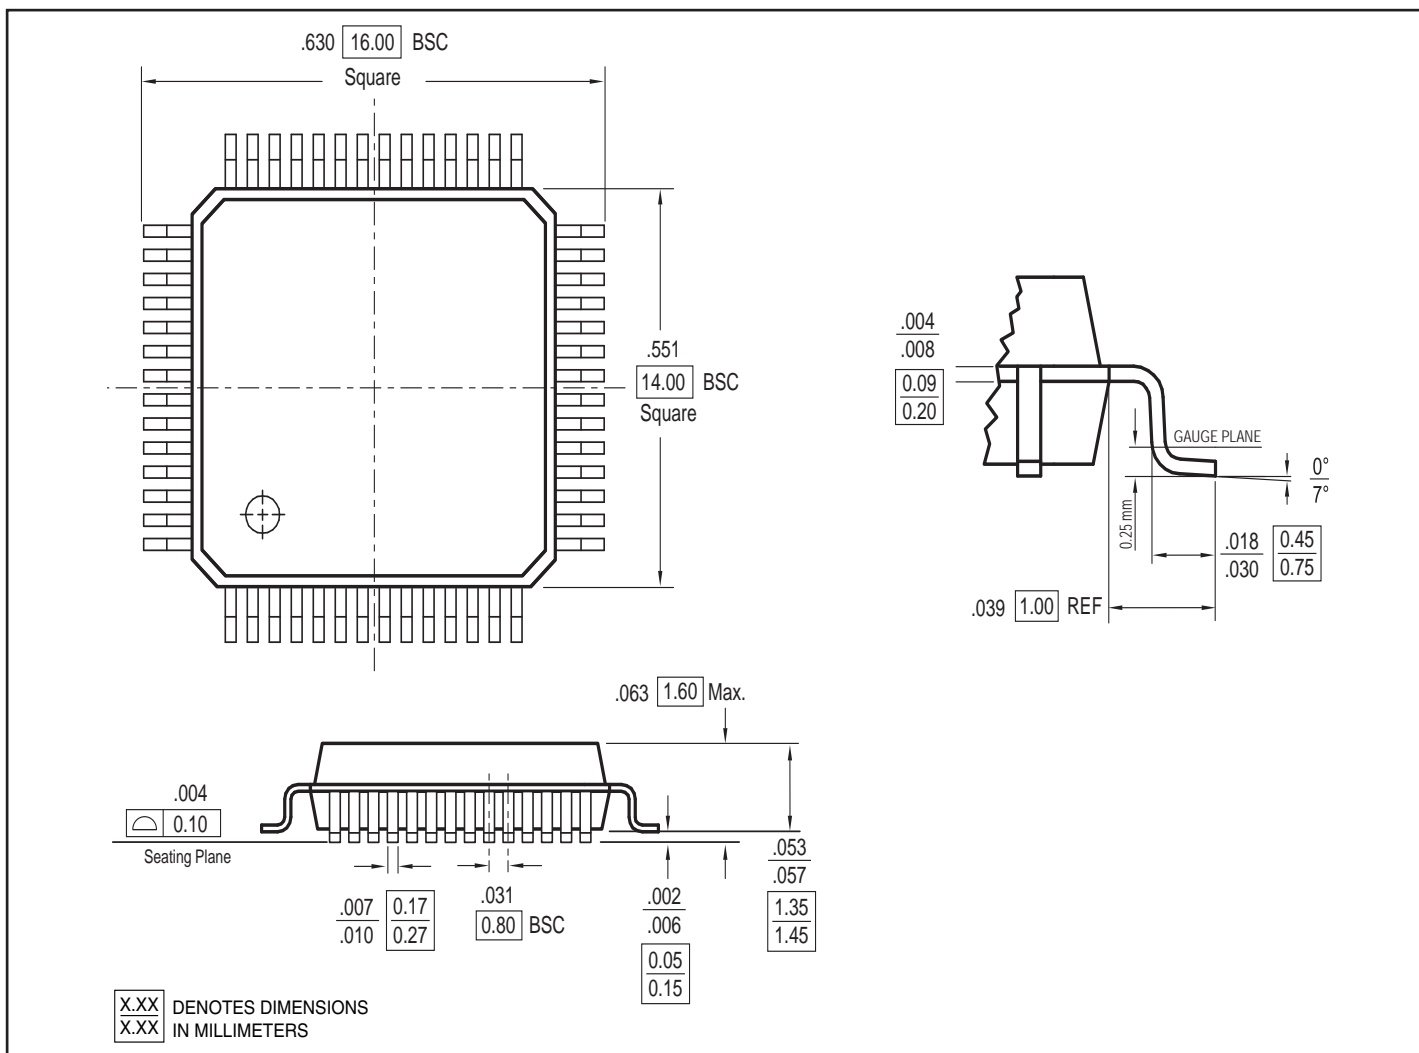

**Figure 6. Receiver Latency**
2. The receiver latency as shown in Figure 6, is defined as the time between receiving the first serial bit of a parallel data word (defined as the first edge of the first serial bit) and the clocking out of that parallel word (defined by the rising edge of the receive byte clock, either RBC1 or RBC0).